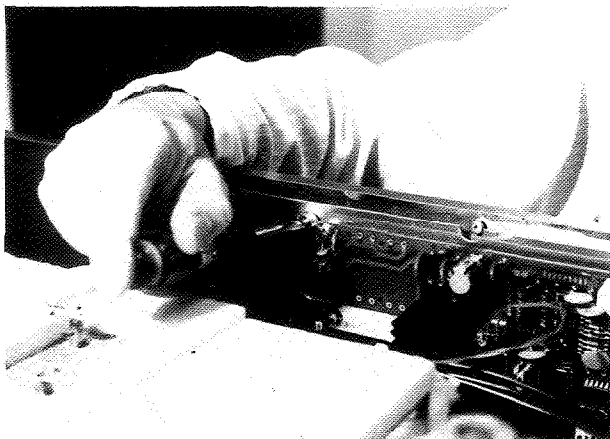

Figure 14
2. Remove 2 nuts holding mounting bracket and remove. (See Figure 14)